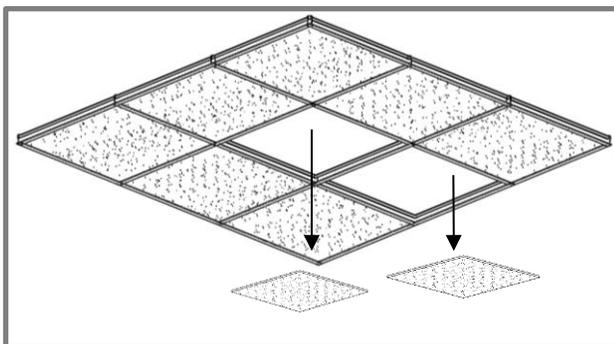

Figure 1.
- Remove the plasterboard panes from the ceiling as shown in figure 1.